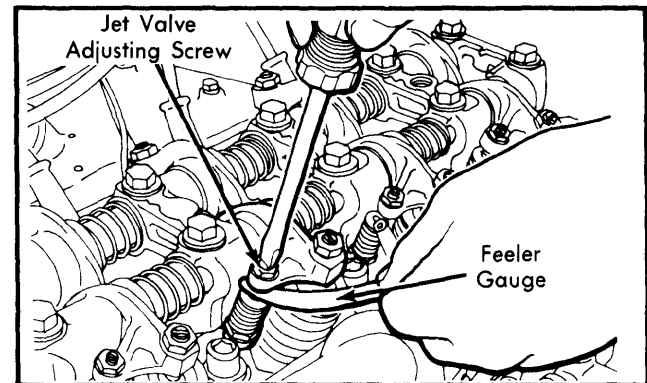

Fig. 2 Adjusting Jet Valve Clearance
4) Back off jet valve adjusting screw (counterclockwise) and place .006" (0.15 mm) feeler gauge between top end of jet valve stem and bottom end of adjusting screw. Fig. 2.